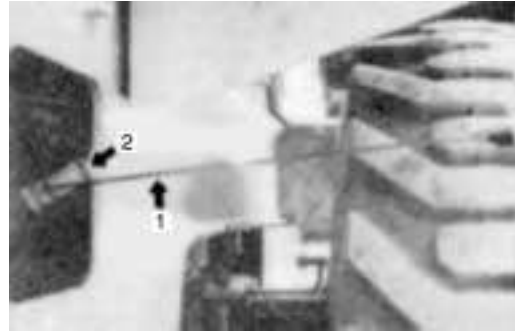

FIGURE 3-13
Start the engine and move the machine to a level area. Place the transmission lever in neutral. Apply the parking brake. Allow the engine to idle until engine temperature is between 82°C (180°F) and 93°C (200°F). Remove the transmission dipstick (1, Figure 3-13). Wipe the dipstick clean and then insert it back into the transmission. Remove the dipstick and check the oil level mark. The oil level must be between the low and full marks. To add oil, remove the cap (2) from the transmission oil filler pipe.